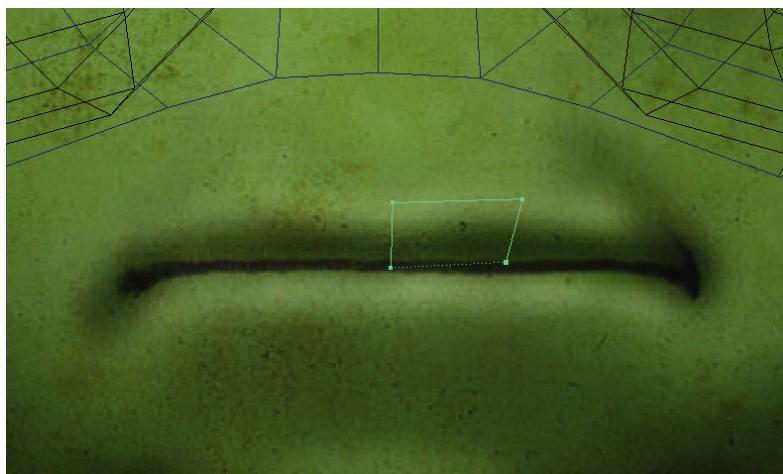

FIG 4.22 Creating the start of the mouth with the Create Polygon Tool.
Step 37: Use the Polygons|Mesh > Create Polygon Tool to create a new polygon for the start of the mouth. Remember to do this in the Front View Panel (Fig. 4.22).